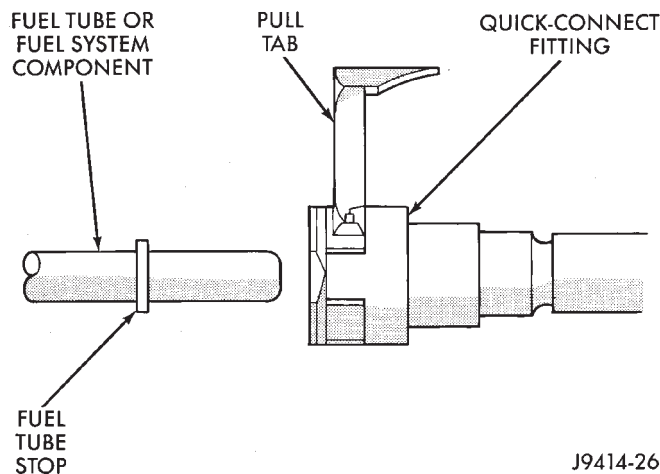

Fig. 17 Removing Pull Tab
(6) Raise the pull tab until it separates from the quick-connect fitting (Fig. 17). Discard the old pull tab.